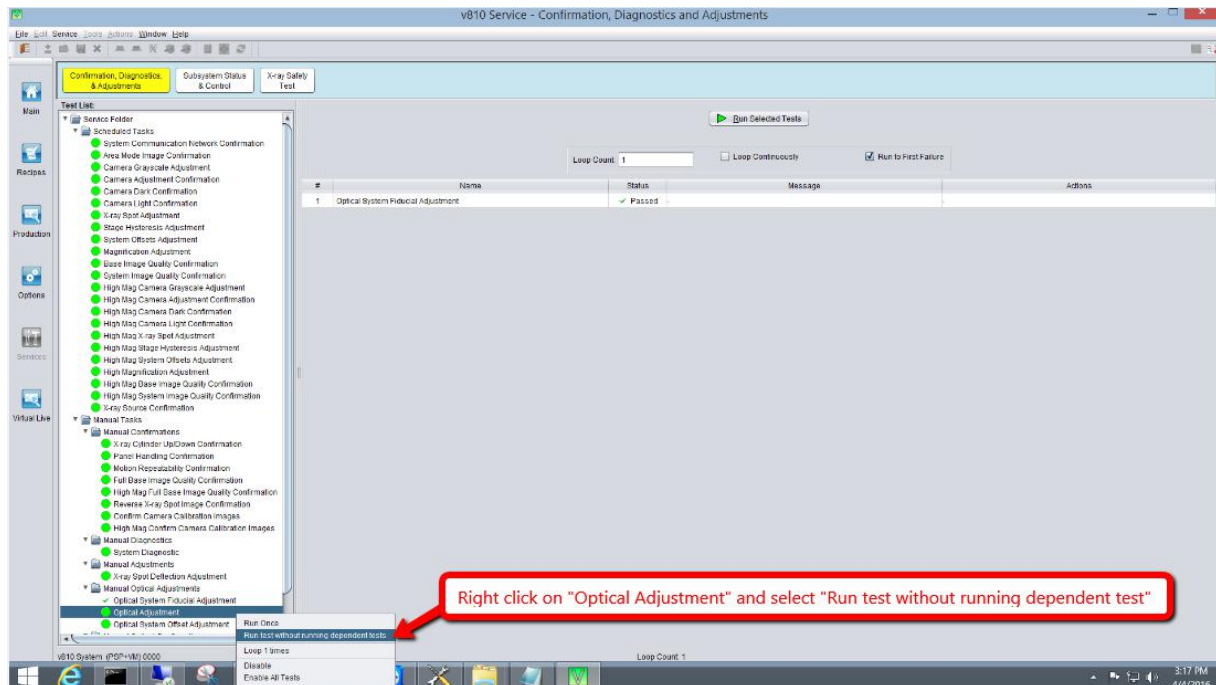

Figure 18 Optical Adjustment
15. At **Confirmation, Diagnostics and Adjustment (CD&A)**, under the **Manual Optical Adjustments**, right click **Optical Adjustment** and select **Run test without dependent tests** as shown in the Figure 18.